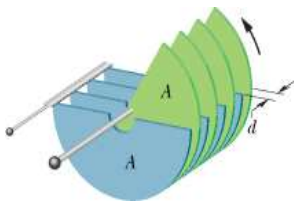

Figure 1
- Figure 1 shows a variable “air gap” capacitor for manual tuning. Alternate plates are connected together; one group of plates is fixed in position, and the other group is capable of rotation. Consider a capacitor of  $n = 8$  plates of alternating polarity, each plate having area  $A = 1.25 \text{ cm}^2$  and separated from adjacent plates by distance  $d = 3.40 \text{ mm}$ . What is the maximum capacitance of the device?